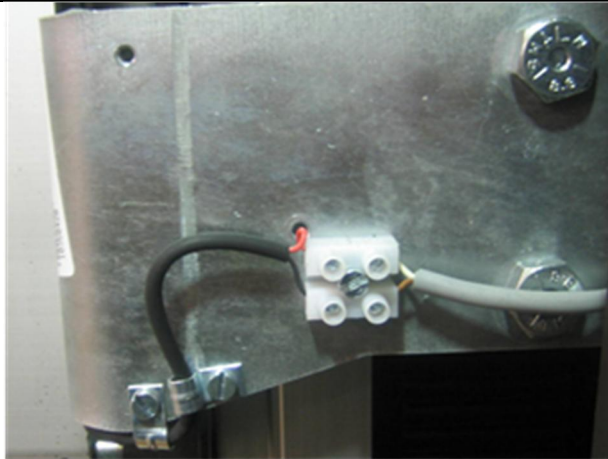

Figure 6
8. Remove the two bolts in the brackets on each end of the extrusion. (See Figure 6).